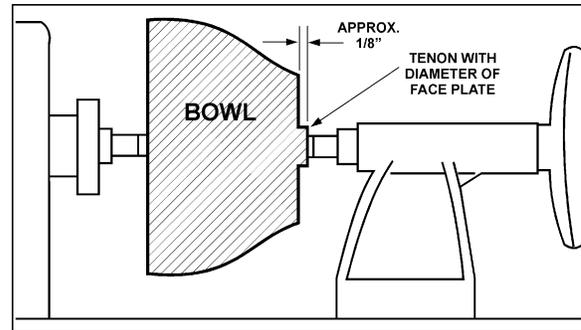

Figure 44
8. Turn a short tenon (about 1/8" long) the size of the hole in the faceplate. See Figure 44. This will allow centering the workpiece when the faceplate is attached.